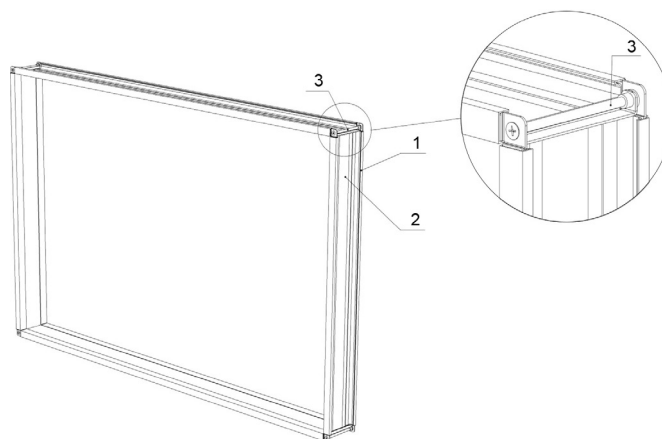

Figure 8.3.1. Flexible connection.
Flexible connection (Figure 8.3.1) used to connect air handling unit with duct system. It protects duct system from vibration generated by fan. Produced with E type connection (1). Use C type profile to connect flexible connection with damper or duct system and screws to connect with AHU.